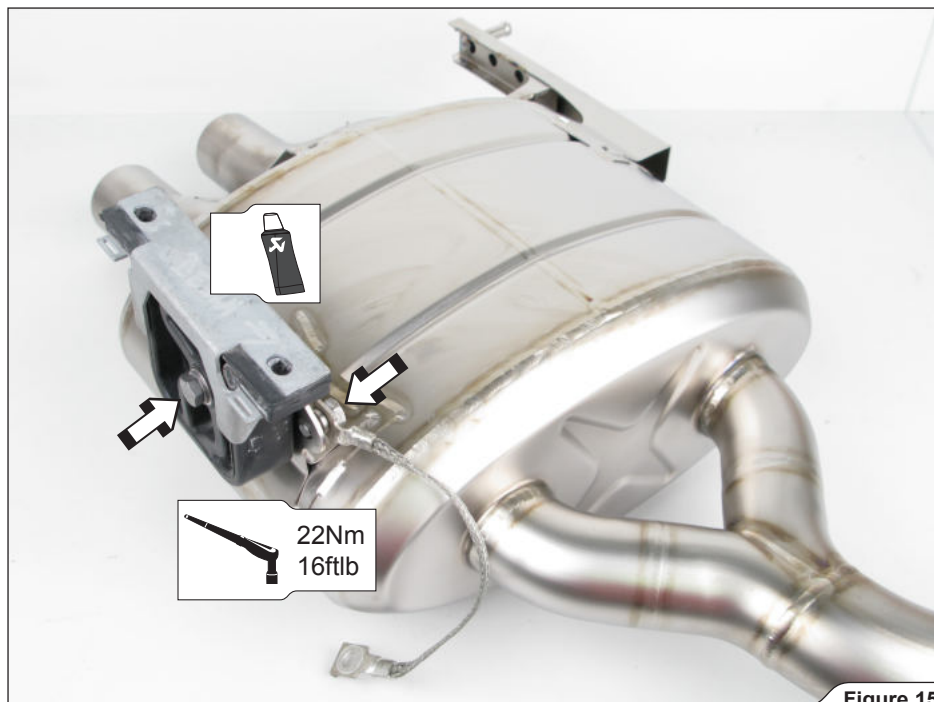

Figure 15
5. **For Slip-On and Evolution:** attach the stock muffler brackets (bear in mind, that brackets are not simetrical) and ground wires on both Akrapovič mufflers (**Figure 15**).